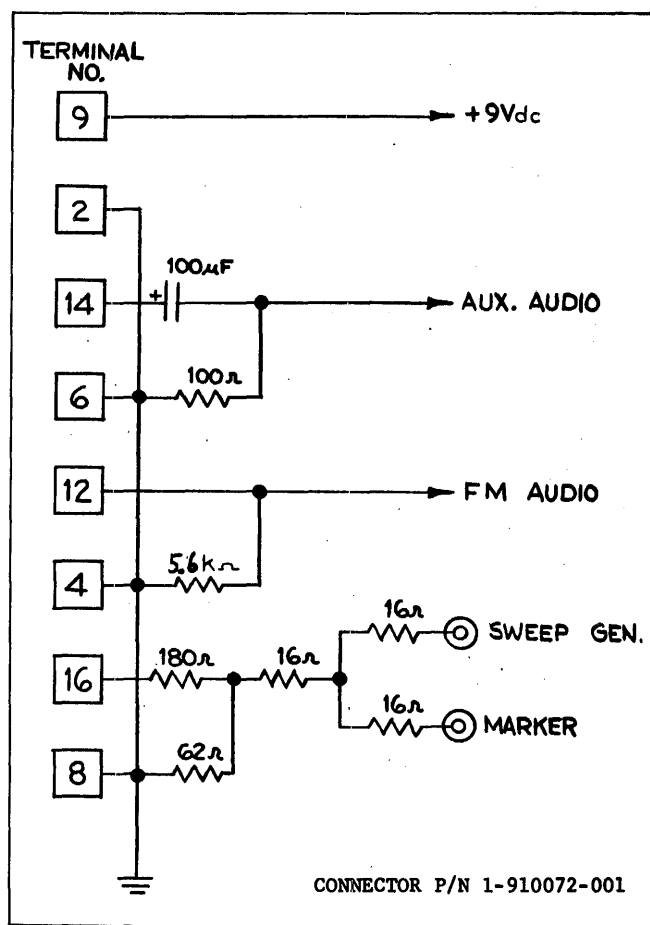

FIGURE 4-47.
a. See Figure 4.47 for schematic of test connector wiring.